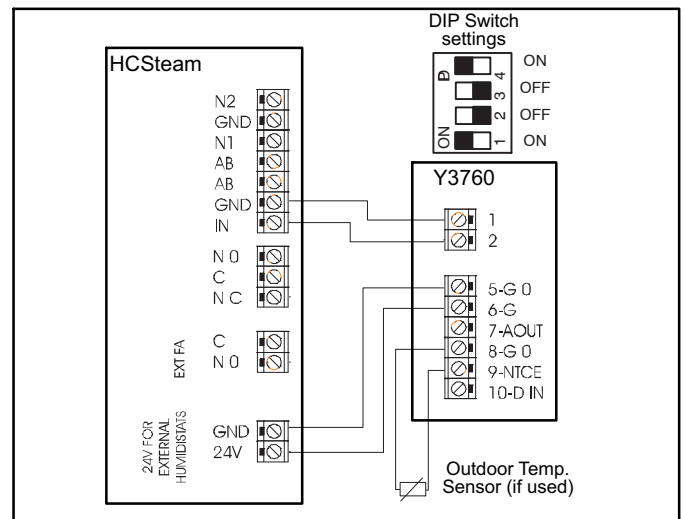

Figure 3. Connect for ON-OFF Operation
IMPORTANT - Be sure the connections are made as described in the following and as shown in figure 3.
Connect HCSteam Humidifier terminals 24V and GND to HC Digital Automatic Humidistat terminals 6-G and 5-G0 respectively. Do not reverse these connections. Connect HC Digital Automatic Humidistat terminal 1 and 2 to HCSteam terminal GND and IN respectively. Do not reverse these connections (see figure 3).
- Verify Dip Switch Settings per figure 3.